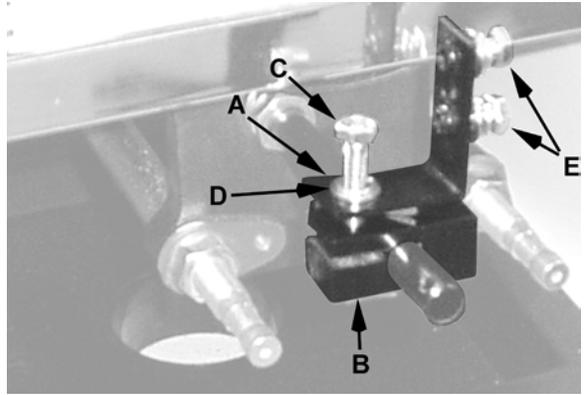

Figure 15
- Line up the hole in the locating plate (A, Fig. 15) with the hole in the locating block (B, Fig. 15) and fasten the plate to the block with one M8 x 35 hex cap screw (C, Fig. 15) and one each M8 lock washer and flat washer (D, Fig. 15). Tighten the hex cap screw (C) enough to hold in place but loose enough to allow adjustment.